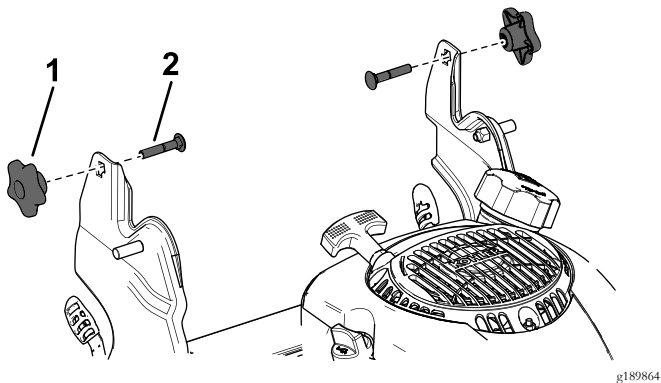

**Figure 24**
2. Fold the handle by rotating it forward (Figure 24).